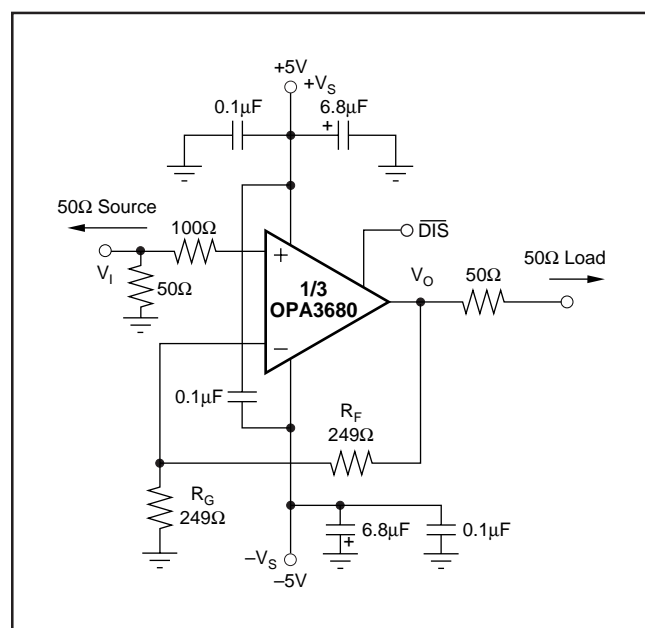
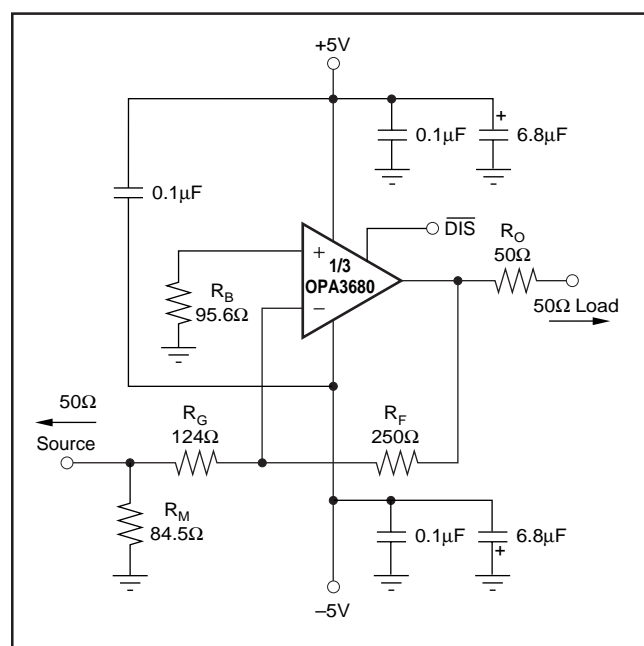

FIGURE 1. DC-Coupled,  $G = +2$ , Bipolar Supply, Specification and Test Circuit.
FIGURE 9. Gain of -2 Example Circuit.
At  $T_A = +25^\circ C$ ,  $G = +2$ ,  $R_F = 250\Omega$ , and  $R_L = 100\Omega$ , unless otherwise noted. See Figure 1.
Figure 1 shows the DC-coupled, gain of +2, dual power supply circuit configuration used as the basis of the  $\pm 5\text{V}$  Specifications and Typical Performance Curves. For test purposes, the input impedance is set to  $50\Omega$  with a resistor to ground and the output impedance is set to  $50\Omega$  with a series output resistor. Voltage swings reported in the specifications are taken directly at the input and output pins, while output powers (dBm) are at the matched  $50\Omega$  load. For the circuit of Figure 1, the total effective load will be  $100\Omega \parallel 498\Omega$ . The disable control line is typically left open to guarantee normal amplifier operation. Two optional components are included in Figure 1. An additional resistor ( $100\Omega$ ) is included in series with the non-inverting input. Combined with the  $25\Omega$  DC source resistance looking back towards the signal generator, this gives an input bias current cancelling resistance that
A good rule of thumb is to target the parallel combination of  $R_F$  and  $R_G$  (Figure 1) to be less than approximately  $125\Omega$ . The combined impedance  $R_F \parallel R_G$  interacts with the inverting input capacitance, placing an additional pole in the feedback network and thus, a zero in the forward response. Assuming a  $3pF$  total parasitic on the inverting node, holding  $R_F \parallel R_G < 125\Omega$  will keep this pole above  $400MHz$ . By itself, this constraint implies that the feedback resistor  $R_F$  can increase to several  $k\Omega$  at high gains. This is acceptable as long as the pole formed by  $R_F$  and any parasitic capacitance appearing in parallel with it is kept out of the frequency range of interest.
Voltage-feedback op amps exhibit decreasing closed-loop bandwidth as the signal gain is increased. In theory, this relationship is described by the Gain Bandwidth Product (GBP) shown in the specifications. Ideally, dividing GBP by the non-inverting signal gain (also called the Noise Gain, or NG) will predict the closed-loop bandwidth. In practice, this only holds true when the phase margin approaches  $90^\circ$ , as it does in high gain configurations. At low gains (increased feedback factors), most amplifiers will exhibit a more complex response with lower phase margin. The OPA3680 is compensated to give a slightly peaked response in a non-inverting gain of 2 (Figure 1). This results in a typical gain of +2 bandwidth of  $220MHz$ , far exceeding that predicted by dividing the  $300MHz$  GBP by 2. Increasing the gain will cause the phase margin to approach  $90^\circ$  and the bandwidth to more closely approach the predicted value of  $(GBP/NG)$ . At a gain of +10, the  $30MHz$  bandwidth shown in the Typical Specifications agrees with that predicted using the simple formula and the typical GBP of  $300MHz$ .
Frequency response in a gain of +2 may be modified to achieve exceptional flatness simply by increasing the noise gain to 2.5. One way to do this, without affecting the +2 signal gain, is to add a  $453\Omega$  resistor across the two inputs in the circuit of Figure 1. A similar technique may be used to reduce peaking in unity gain (voltage follower) applica-
Since the OPA3680 is a general purpose, wideband voltage feedback op amp, all of the familiar op amp application circuits are available to the designer. Inverting operation is one of the more common requirements and offers several performance benefits. Figure 9 shows a typical inverting configuration where the I/O impedances and signal gain from Figure 1 are retained in an inverting circuit configuration.
advantage that the noise gain becomes equal to 2 for a 50Ω source impedance—the same as the non-inverting circuits considered above. However, the amplifier output will now see the 100Ω feedback resistor in parallel with the external load. In general, the feedback resistor should be limited to the 100Ω to 1.5kΩ range. In this case, it is preferable to increase both the  $R_F$  and  $R_G$  values as shown in Figure 9 and then achieve the input matching impedance with a third resistor ( $R_M$ ) to ground. The total input impedance becomes the parallel combination of  $R_G$  and  $R_M$ .
The second major consideration, touched on in the previous paragraph, is that the signal source impedance becomes part of the noise gain equation and hence influences the bandwidth. For the example in Figure 9, the  $R_M$  value combines in parallel with the external 50Ω source impedance, yielding an effective driving impedance of  $50\Omega \parallel 84.5\Omega = 31.4\Omega$ . This impedance is added in series with  $R_G$  for calculating the noise gain (NG). The resultant NG is 2.6 for Figure 9, as opposed to only 2 if  $R_M$  could be eliminated as discussed above. The bandwidth will therefore be slightly lower for the gain of  $-2$  circuit of Figure 9 than for the gain of  $+2$  circuit of Figure 1.
The third important consideration in inverting amplifier design is setting the bias current cancellation resistor on the non-inverting input ( $R_B$ ). If this resistor is set equal to the total DC resistance looking out of the inverting node, the output DC error, due to the input bias currents, will be reduced to (Input Offset Current) •  $R_F$ . If the 50Ω source impedance is DC-coupled in Figure 9, the total resistance to ground on the inverting input will be 155Ω. Combining this in parallel with the feedback resistor gives the  $R_B = 95.6\Omega$  used in this example. To reduce the additional high frequency noise introduced by this resistor, it is sometimes bypassed with a capacitor. As long as  $R_B < 350\Omega$ , the capacitor is not required since the total noise contribution of all other terms will be less than that of the op amp's input noise voltage. As a minimum, the OPA3680 requires an  $R_B$  value of 50Ω to damp out parasitic-induced peaking—a direct short to ground on the non-inverting input runs the risk of a very high frequency instability in the input stage.
The distortion plots show which changes in operation will improve distortion. Increasing the load impedance improves distortion directly. Remember that the total load includes the feedback network; in the non-inverting configuration (Figure 1) this is sum of  $R_F + R_G$ , while in the inverting configuration (Figure 9), it is just  $R_F$ . Also, providing an additional supply decoupling capacitor (0.1μF) between the supply pins (for bipolar operation) improves the 2nd-order distortion slightly (3dB to 6dB).
Evaluating these two equations for the OPA3680 circuit and component values shown in Figure 1 will give a total output spot noise voltage of  $11\text{nV}/\sqrt{\text{Hz}}$  and a total equivalent input spot noise voltage of  $5.5\text{nV}/\sqrt{\text{Hz}}$ . This is including the noise added by the bias current cancellation resistor ( $100\Omega$ ) on the non-inverting input. This total input-referred spot noise voltage is only slightly higher than the  $4.8\text{nV}/\sqrt{\text{Hz}}$  specification for the op amp voltage noise alone. This will be the case as long as the impedances appearing at each op amp input are limited to the previously recommend maximum value of  $125\Omega$ . Keeping both ( $R_F \parallel R_G$ ) and the non-inverting input source impedance less than  $125\Omega$  will satisfy both noise and frequency response flatness considerations. Since the resistor-induced noise is relatively negligible, additional capacitive decoupling across the bias current cancellation resistor ( $R_B$ ) for the inverting op amp configuration of Figure 9 is not required.
The balanced input stage of a wideband voltage feedback op amp allows good output DC accuracy in a wide variety of applications. The power supply current trim for the OPA3680 gives even tighter control than comparable products. Although the high speed input stage does require relatively high input bias current (typically  $14\mu\text{A}$  out of each input terminal), the close matching between them may be used to reduce the output DC error caused by this current. The total output offset voltage may be considerably reduced by matching the DC source resistances appearing at the two inputs. This reduces the output DC error due to the input bias currents to the offset current times the feedback resistor. Evaluating the configuration of Figure 1, using worst-case  $+25^\circ\text{C}$  input offset voltage and current specifications, gives